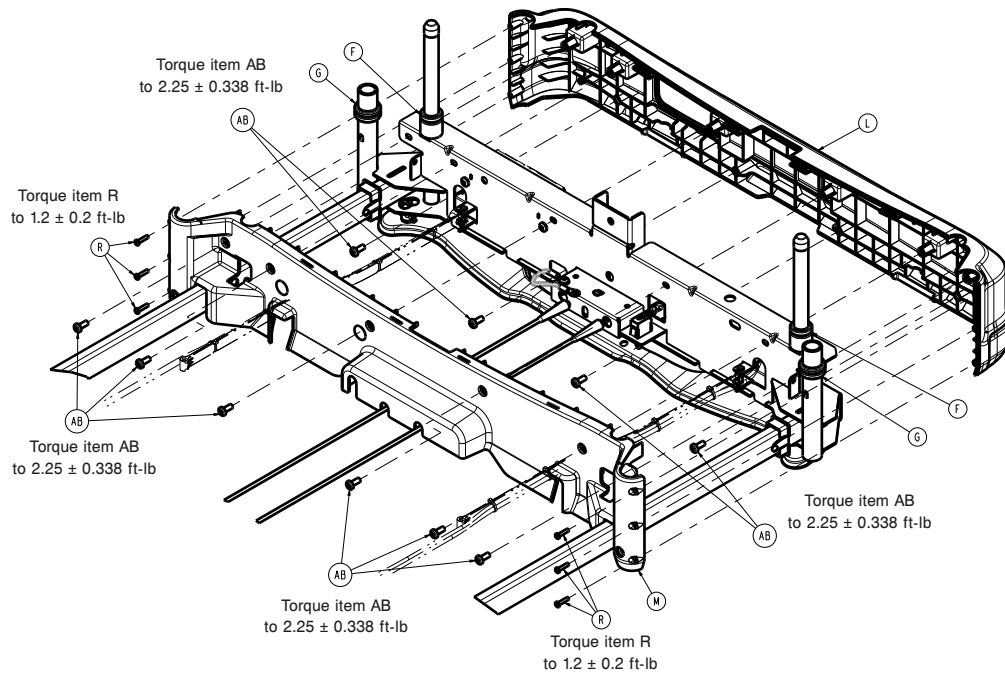

Figure 18 – Replacing the cover
6. Using a T15 Torx driver, remove the six outer screws (R) that secure the front cover (L) to the rear cover (M) (Figure 18). Save the screws.
7. Using a T30 Torx driver, remove the six screws (AB) that secure the front cover to the rear cover (M) (Figure 18). Save the screws.
9. Using a T30 Torx driver with a ratchet and 3" extension, remove the four screws (AB) that secure the front cover to the extender frame (Figure 18). Remove and discard the front cover.
- Using a T15 Torx driver, remove the six outer screws (R) that secure the front cover (L) to the rear cover (M) (Figure 18). Save the screws.
- Using a T30 Torx driver, remove the six screws (AB) that secure the front cover to the rear cover (M) (Figure 18). Save the screws.